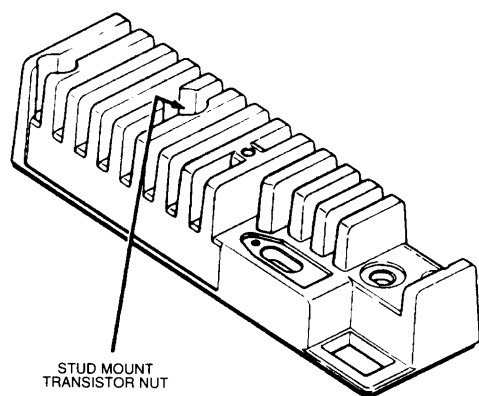

Figure 1-8.
4. UHF ONLY - Remove the stud mount transistor mounting nut from the back of the heat-sink (Figure 1-8).